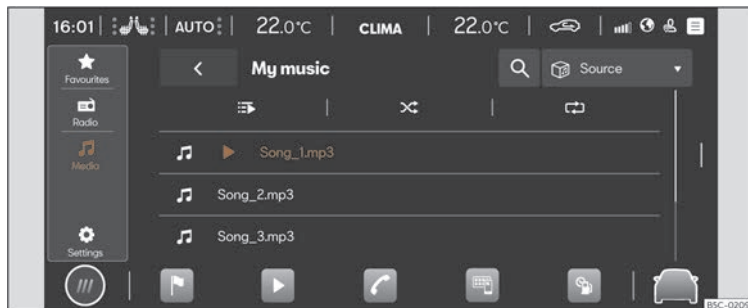

Fig. 167 Schematic diagram: Media view
- Press **HOME** > **▶** > **♪** >>> **Fig. 167**.